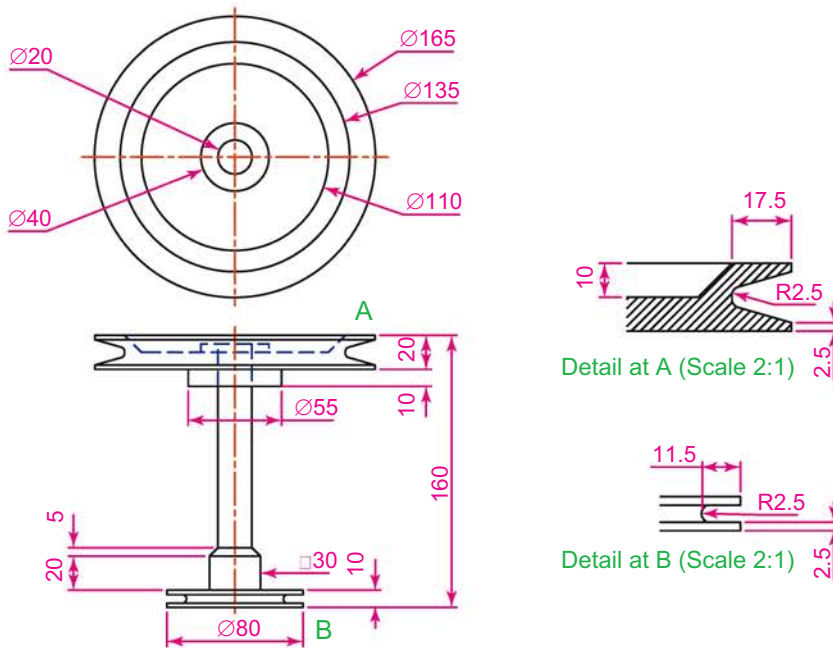

Fig. 9.49 Exercise 8
8. Working to the details given in the orthographic projection Fig. 9.49, construct a 3D model of the assembly. After constructing the pline outline(s) required for the solid(s) of revolution, use the **Revolve** tool to form the 3D solid.